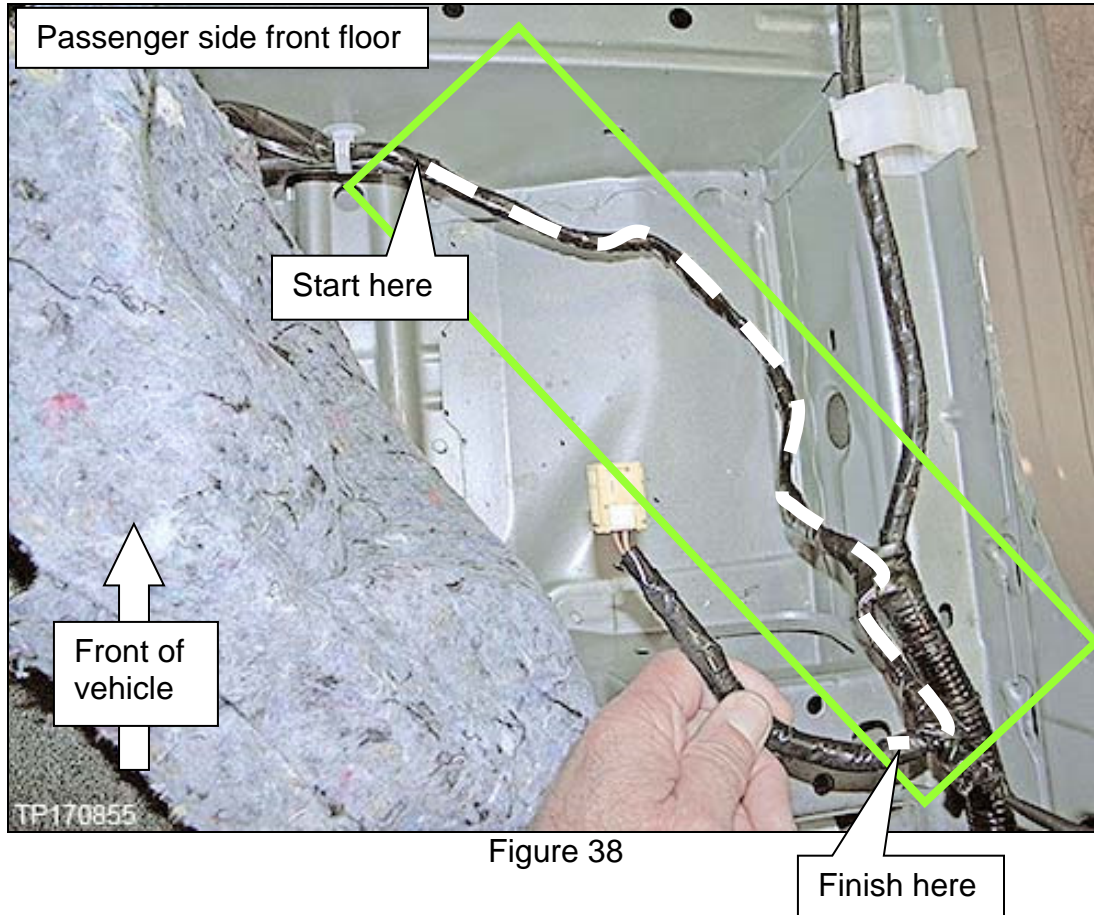

Figure 38
- Wrap the harness where shown in Figure 38 indicated by the dashed line.